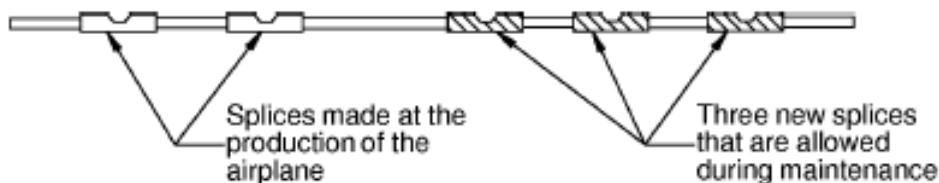

Figure 7-47. Three new splices are allowed
- The maximum number of new splices that a wire can have is three (**Fig. 7-47**);